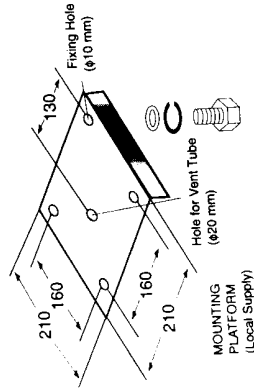

Figure 4 Dimensions of antenna platform
3. Construct a platform (wood, steel, or aluminum) of 5-10 mm in thickness whose dimensions are as shown in Figure 4. Fasten the platform to the mounting location. Find the cable entry on the antenna base. Next, position the base so the cable entrance faces the stern direction and the vent tube is extending downward through the hole for the vent tube.